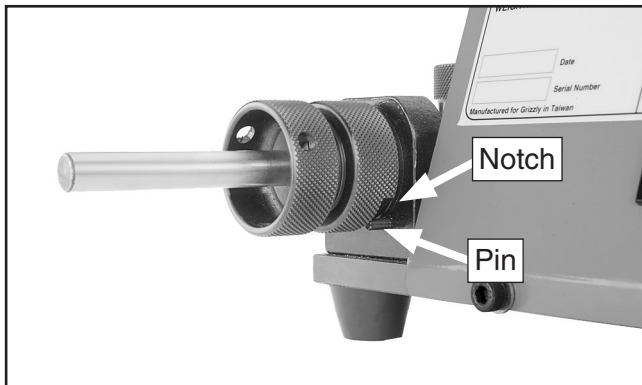

Figure 12. Collet holder notch aligned with adjusting device pin.
5. Fully insert the collet holder with the drill bit into the calibrating device, so the holder and device are flush and the pin fits into the collet holder notch as shown in **Figure 12**.